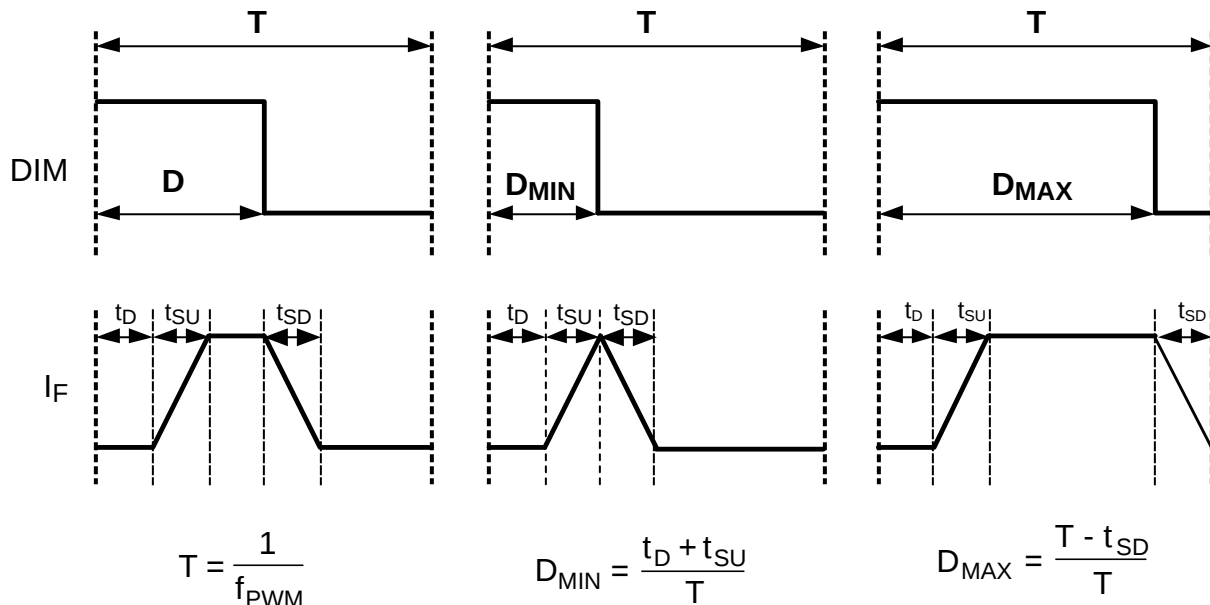

Figure 4. PWM Dimming Limits
The **DIM1** terminal on the PCB provides an input for a logic-level pulse width modulation signal for dimming of the LED array. In order to fully enable and disable the LM3406 the PWM signal should have a maximum logic low level of 0.8V and a minimum logic high level of 2.2V. Graphical representations of minimum and maximum PWM duty cycle are illustrated in Figure 4. The interval t_D represents the delay from a logic high at the DIM pin to the rise in output current. The quantities t_{SU} and t_{SD} represent the time needed for the output current to slew up to steady state and slew down to zero, respectively. It is important to note that t_D is a property of the LM3406 and remains fixed in all applications. The slew rates t_{SU} and t_{SD} are a function of the external circuit parameters V_{IN} , V_O , I_F , inductance (L) and the LM3406 parameter $t_{OFF-MIN}$. Response times for a circuit driving three white LEDs at 1A from 24V are shown in the Typical Performance Characteristics section, but the user should test every new circuit to determine the actual PWM dimming response.